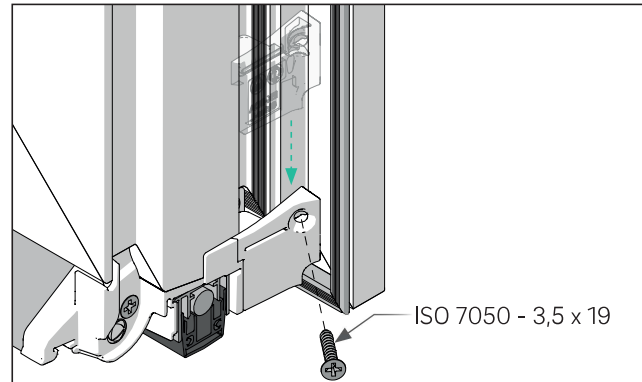

Fig. 8: Installation of weather rail end cap part 2
- Part 2 of the end cap can be pushed from top to bottom on the sash upstand and through the fitting groove onto the already installed end cap and screwed tight (fig. 8).